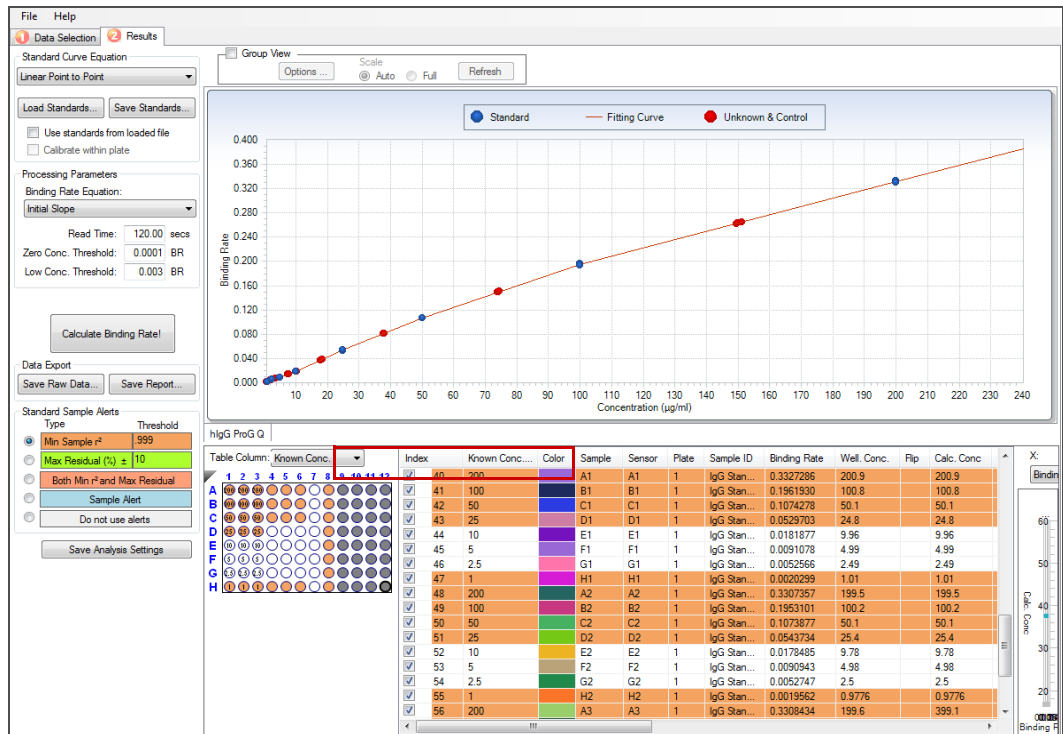

Figure 4-31: Results Window—Displaying Standards Sample Alerts
1. In the Results window (Figure 4-31), click **Save Raw Data**.